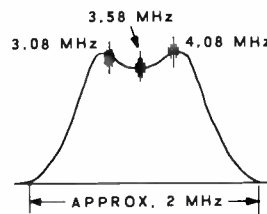

Figure 4-5
- ( ) Adjust the top and bottom slugs of T401 for the response curve shown in Figure 4-5.